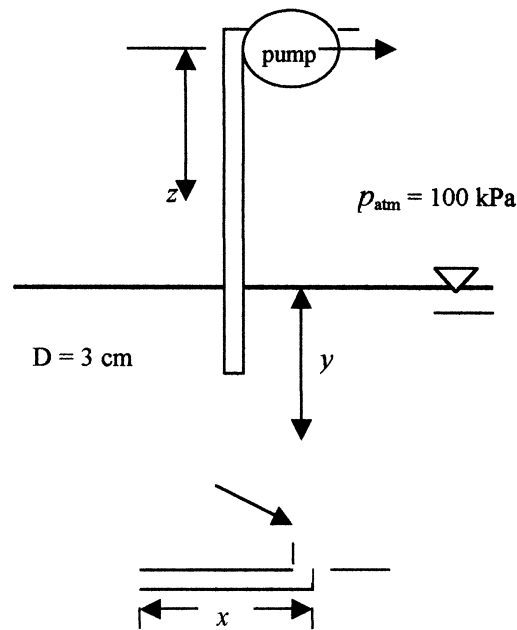

Fig. P3.183
**3.183** The pump in Fig. P3.183 draws gasoline at 20°C from a reservoir. Pumps are in big trouble if the liquid vaporizes (cavitates) before it enters the pump. (a) Neglecting losses and assuming a flow rate of 65 gal/min, find the limitations on  $(x, y, z)$  for avoiding cavitation. (b) If pipe-friction losses are included, what additional limitations might be important?